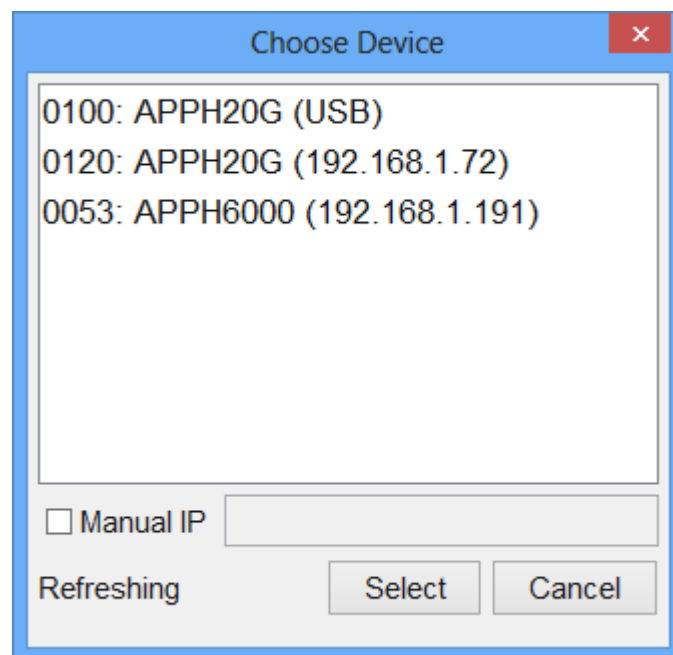

Figure 3 Device selection dialog
After start, the software will automatically detect existing APPH instruments (LAN and USB) and will establish connection to the previously connected device, if still available. Otherwise a window will appear with all detected APPH devices listed. Connection to a device can be established by selecting the device identifier in the list and then clicking on the "select" button (see Figure 3). When this dialog is displayed, the GUI continuously searches and refreshes the list of available devices.
**Device → Connect** automatically detects available APPH devices through LAN or USB. If a connection is already established, it disconnects and opens the dialog as shown in Figure 3.